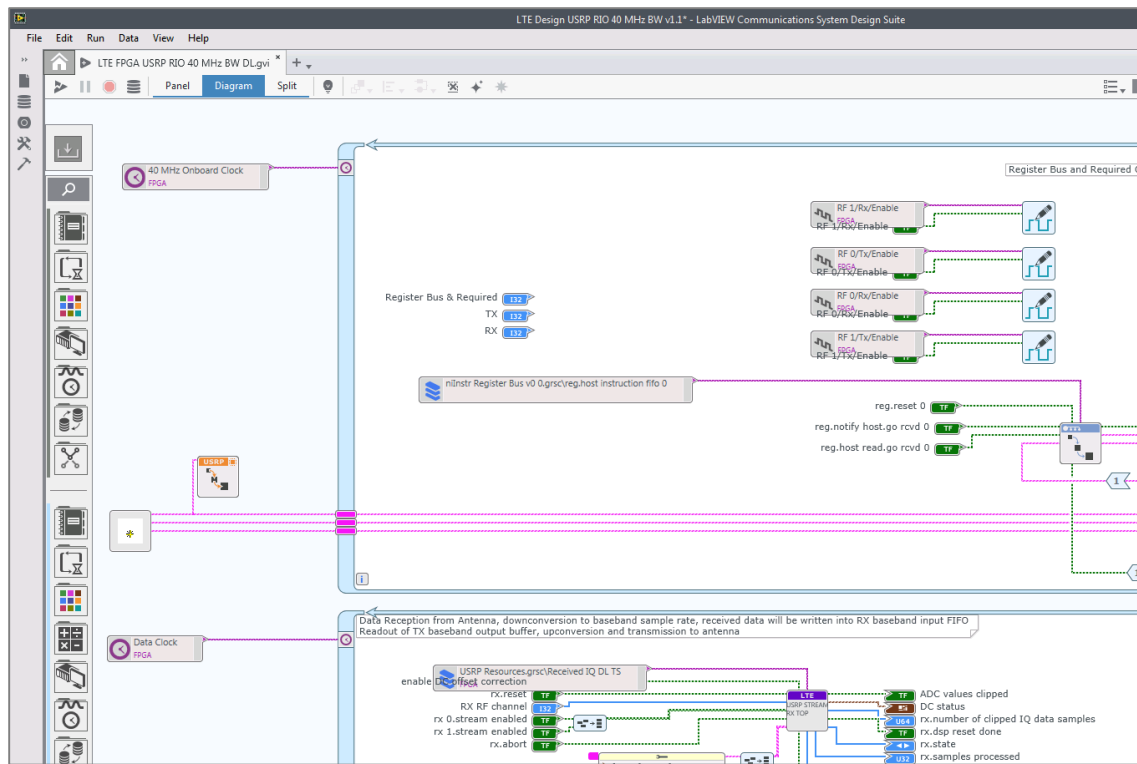

Figure 35 - Pasted USRP interface elements wired up
9. In the project you wish to migrate, paste the elements you copied from the new streaming project and wire as shown in Figure 35.